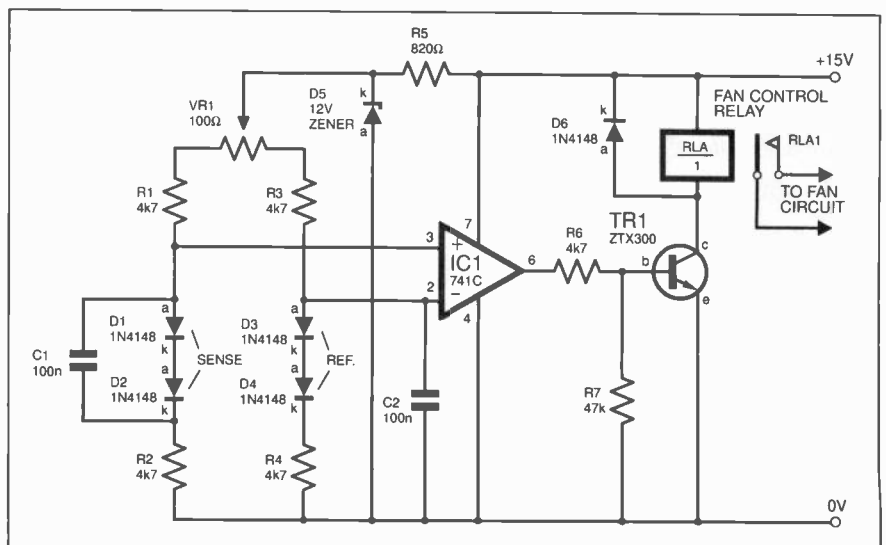

Fig.2. Circuit diagram for a Cooling Fan Thermostat.
**W**HEN challenged to design a cheap system to switch on a cooling fan for an electronics enclosure when a certain cabinet temperature was reached, the circuit of Fig. 2 was eventually arrived at. The fan relay RLA had to switch when the detected temperature rose to a certain value above ambient, so a differential thermostat was required.
In Fig. 2, both the sensor and reference diodes are "doubled up" to give an increased sensitivity of about 4.5mV per degree Celsius. The op.amp IC1 has no feedback and operates in open-loop mode as a comparator, fed by the bridge network which itself is supplied by the 12V regulated supply (Zener D5); one pair of diodes D3, D4 acting as